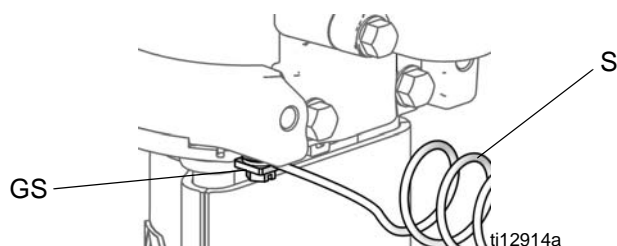

FIG. 4. Ground screw and wire
See FIG. 4. Verify that the ground screw (GS) is attached and tightened securely to the air motor. Connect the other end of the ground wire (S) to a true earth ground.